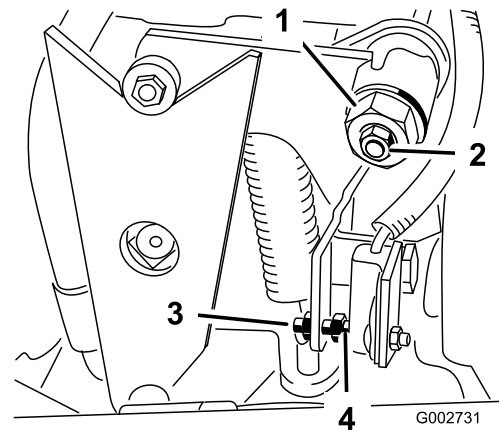

Figure 32
4. Loosen the locknut on the traction adjustment cam (Figure 32).
5. Start the engine and rotate the cam hex (Figure 32) in both directions to determine the mid position of the neutral span.
3. Adjust the screw until the air gap is .060 inches $\pm$.030 (Figure 32).